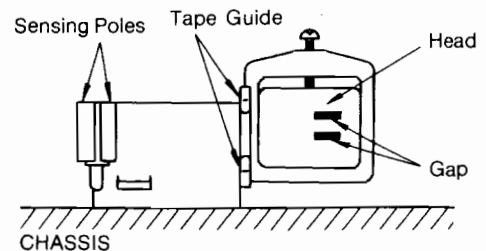

FIG. 14
3. Set program button to 1st channel position. Adjust screw-3 until upper gap is parallel to the upper part of tape guide by visual check, as shown in Fig. 14.